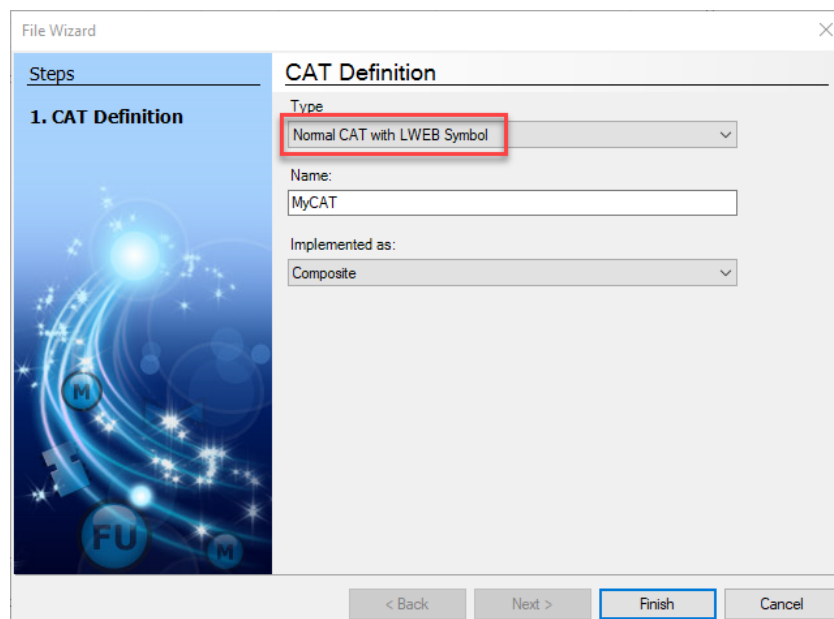

Figure 46: Create a 61499 CAT to embed the 61131 program.
10. To embed the program block into the 61499 runtime, create a normal CAT: In the 'KickStart' solution tree, select **CAT → Application**. Then right-click and choose **New Item**. Select **Normal CAT** and type in a name. Then click **Finish** as shown in Figure 46.